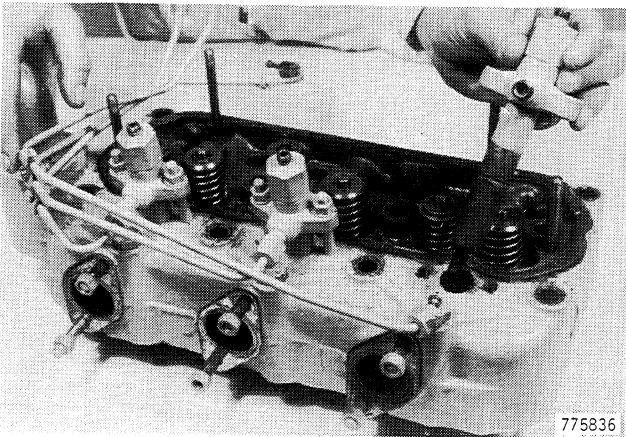

Figure 95
2. Install the injector in the head, Figure 95.